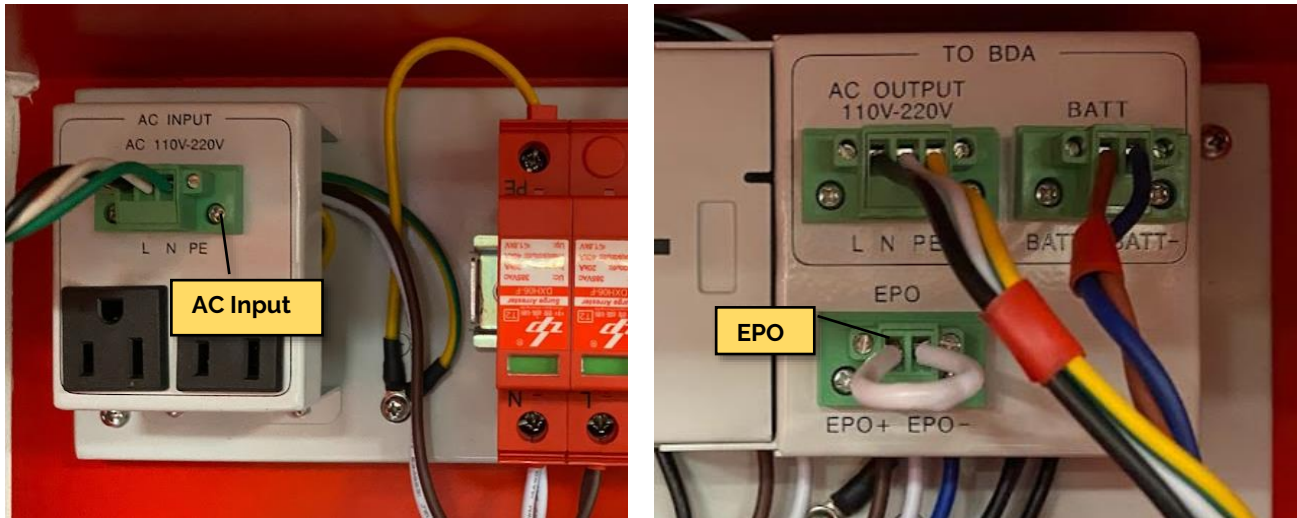

Figure 8: AC Inputs and EPO
- The EPO should be either connected to an external EPO switch or shorted with a jumper (as shown in Figure 8).